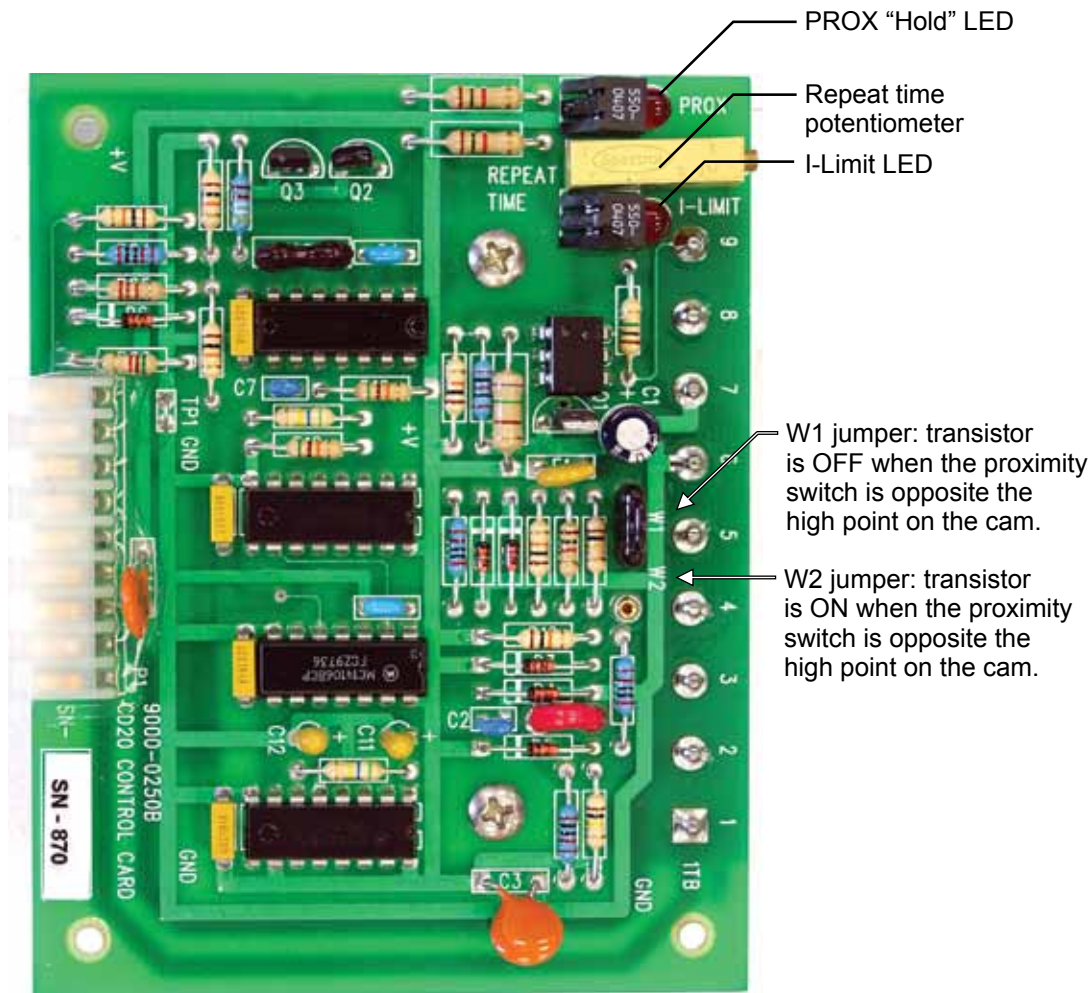

Figure 2.3—CD-20 control card, full view
5. If a signal verifying the rotation of the motor is desired in a control room, connect the transistor output contact to 1TB-8 (collector) and 1TB-9 (emitter). Check the position of jumpers W1 and W2 to designate whether the transistor will turn on or off when the proximity switch is opposite the high point on the cam (Figure 2.3, page 9).
The repeat time potentiometer (Figure 2.3), which determines the rate of sampling when the controller is connected to a probe, is typically set at the factory at 15 seconds. However, it can be adjusted over a range of 3 seconds to 3 minutes.